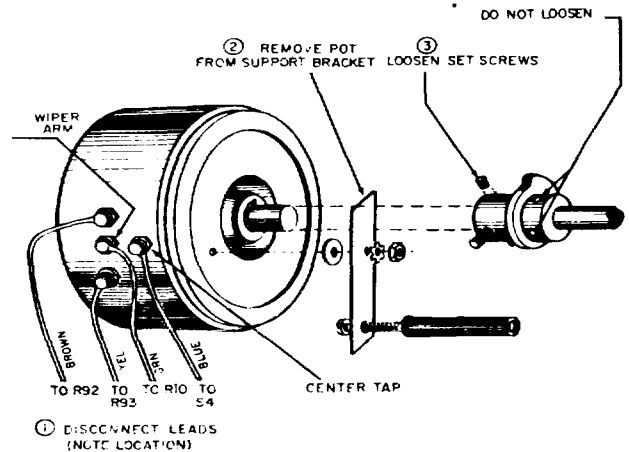

Figure 5-6. Detail Showing Reflector Potentiometer Removal
- 5-37. To replace reflector potentiometer, R96, refer to Figure 5-6 and proceed as follows:
- e. Loosen setscrews on mode-switch cam located between cam and potentiometer. DO NOT LOOSEN setscrews between mode-switch cam and frequency drive casting (see Figure 5-6).